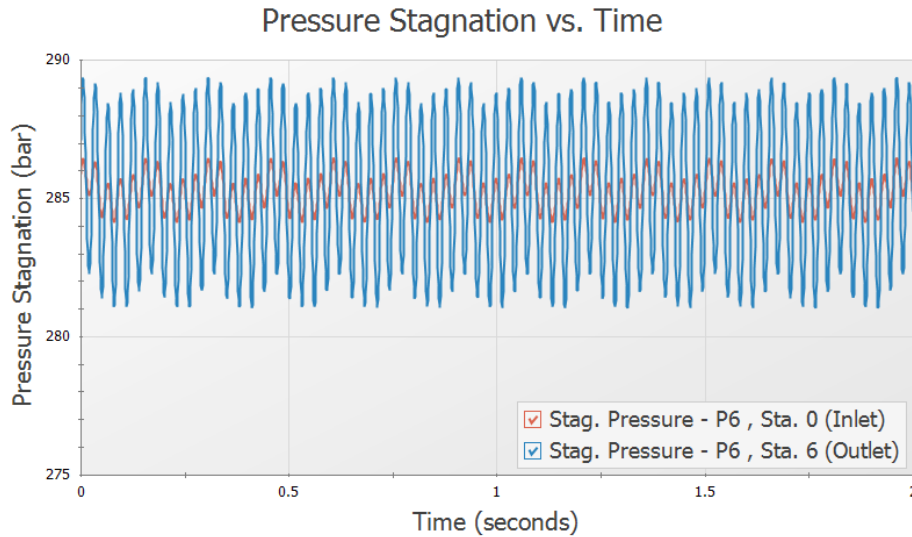

Figure 18: Pressure Oscillations at Inlet and Outlet of Pipe P6 for 133 RPM
7. Click Generate (see Figure 18).